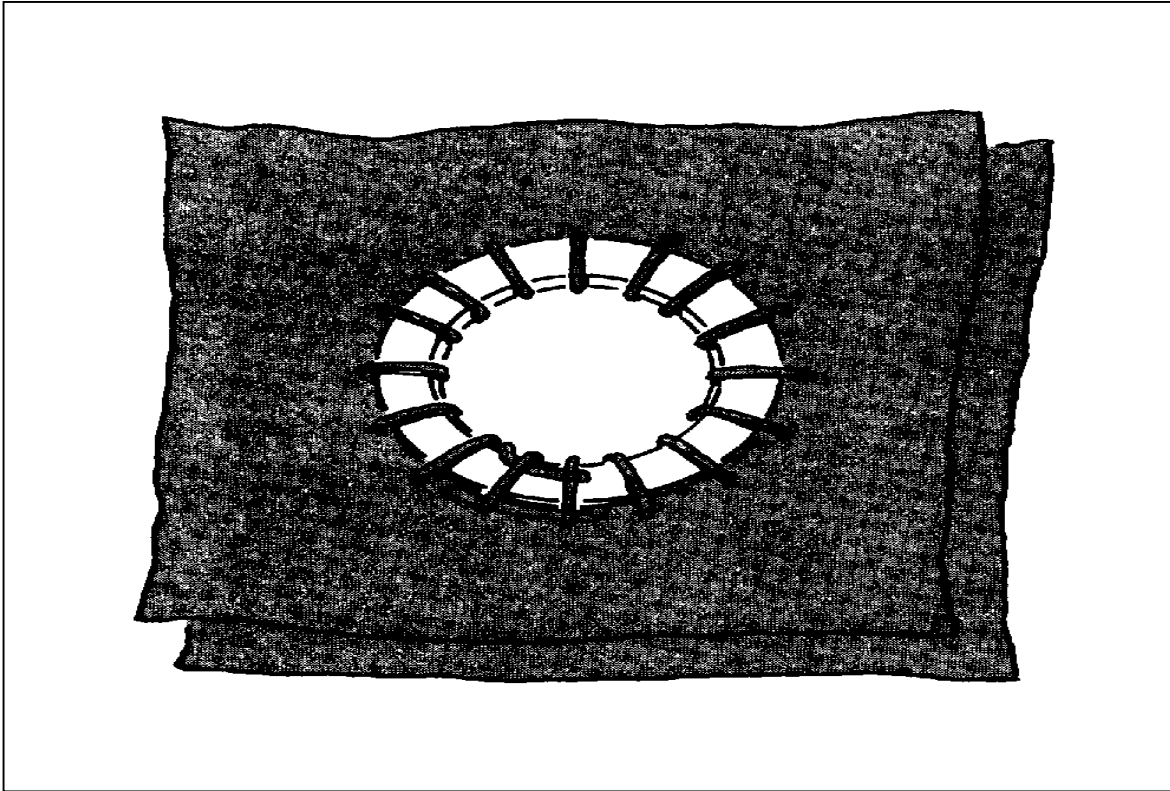

Figure 12-6. Series of round stitches around a grommet
(5) Thread the needle with four strands of waxed thread, and knot the ends. Twist the strands together, rewrap the thread, and cut off the knot.
(6) Stick the needle into one of the needle holes, and draw the thread through the hole until a 1/2-inch end is left.
(7) Hold the 1/2-inch length of thread down against the canvas and the edge of the ring with the free end pointing clockwise.
(8) Bring the needle up through the grommet hole, over the ring and the 1/2-inch end, and stick it down into the next needle hole.
(9) Continue stitching clockwise, making a series of round stitches around the grommet hole (Figure 12-6).
(10) Finish the stitching by sticking the needle under the last two stitches and pulling the thread up tightly.
(11) Leave free a 1/2-inch length of thread, and cut the thread.